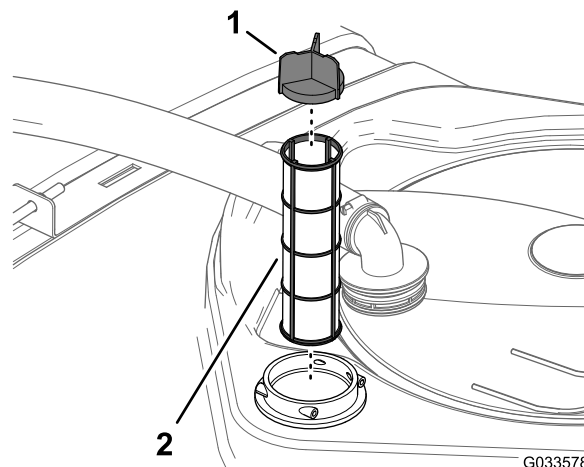

Figure 96
4. Pull the suction strainer out of the filter housing in the tank (Figure 96).